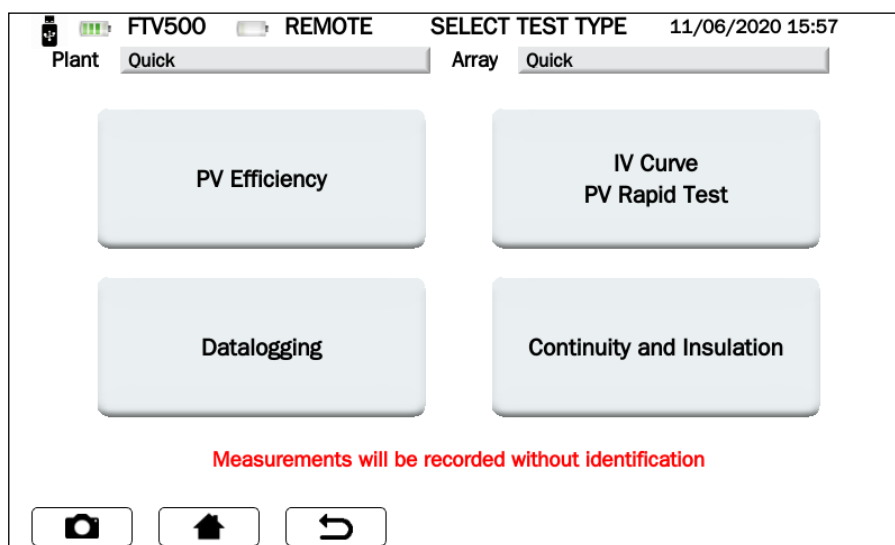

Figure 14.7-6 Select test type (in Quick Measurement)
*IMPORTANT: Performing this test in Quick mode (see paragraph 14.7 figures 14.7-6) where the master data is missing, as well as any reference to a plant or a photovoltaic module) does not allow to calculate PRp, AC DC yields. The only visible data will be those relating to the measurements made.*
Starting out from Figure 14.7.6 and pressing the **PV Efficiency** button, a screen that allows to synchronize the instrument with the remote unit is shown: